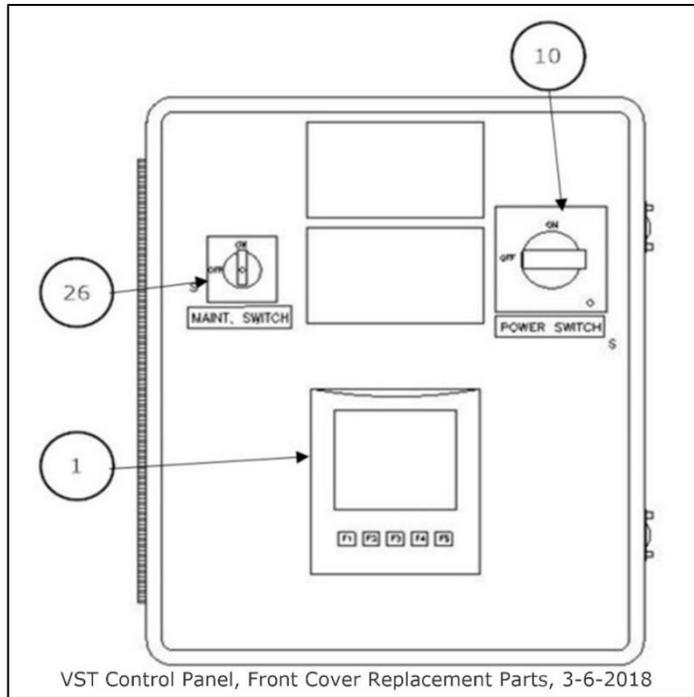

Figure 9-2: VST Control Panel, Front Cover Replacement Parts
- See Figure 9-2, 9-3, and 9-4.
- See Figure 9-2, 9-4, & 9-8.
1. Turn OFF power to the VST Control Panel at the Power Switch located on the front of the VST Control Panel (See Figure 9-2). (The power, ground, and neutral will be completely disconnected from the GREEN MACHINE).
- **See Figures 9-2, 9-4, & 9-9.**
1. Turn OFF power to the VST Control Panel at the Power Switch located on the front of the VST Control Panel (**See Figure 9-2**). (The power, ground, and neutral will be completely disconnected from the GREEN MACHINE).